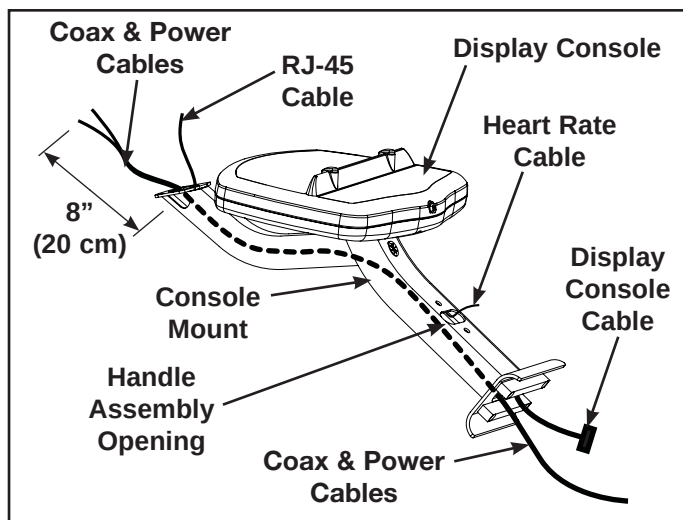

Figure 14
- C. Insert the coax and power cables into the bottom of the console mount until 8" (20 cm) of cable exits the top. See Figure 14.